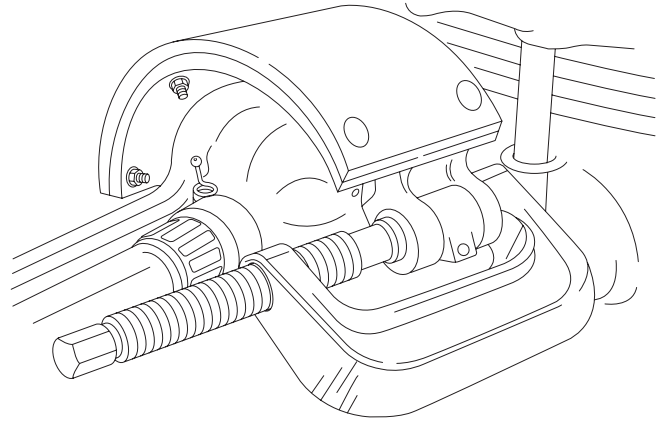

Figure 1. Brake Anchor Pin Removal
2. Position the C-Frame over the brake spider as shown in Figure 1.